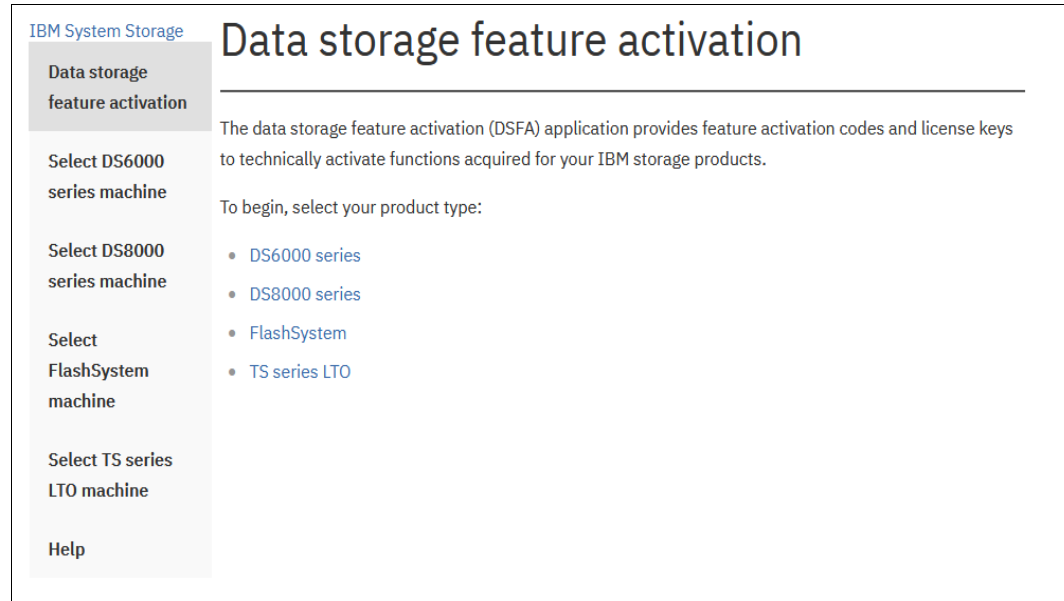

Figure 7-8 DSFA website
1. As shown in Figure 7-8, connect to the DSFA website.